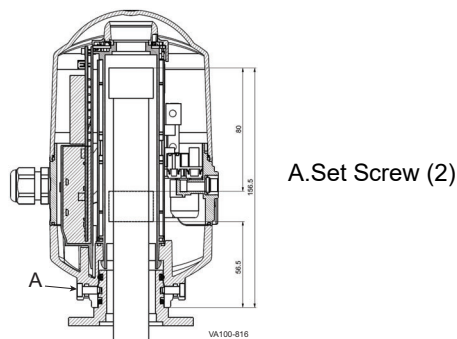

Figure 49 - Bürkert Control Top Removal
2. Remove the (2) set screws behind the (2) plastic plugs with tabs at the base of the control top (Figure 49).